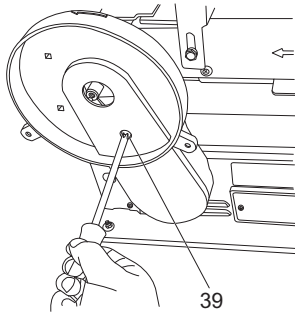
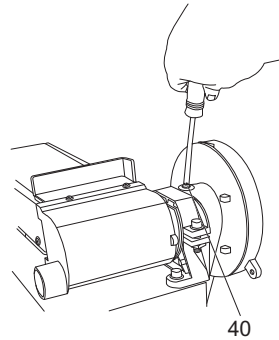

Fig. 41
Fig. 42
- > When the disc has been removed, undo the lower cover screw (39) (Fig. 41) and the upper cover screw (40) (Fig. 42), remove the disc belt cover.